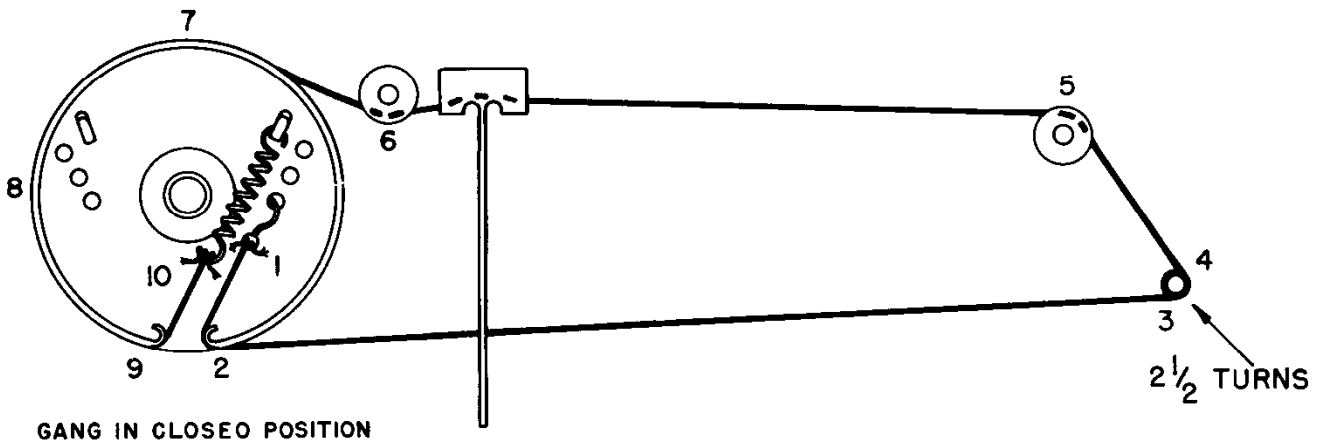

Figure 6. Dial stringing detail
*Restranging Dial Cord* - Restranging with 30 lb. test dial cord or fish line. Tie one end of a 30 inch length of line to the wire hook and follow the stringing path outlined in Fig. 6 ending at the spring. To position the pointer, close the gang and line up the pointer with the left hand dial index lines of each scale. It would be well to check the dial calibration against a known standard frequency as a final check on the pointer position.